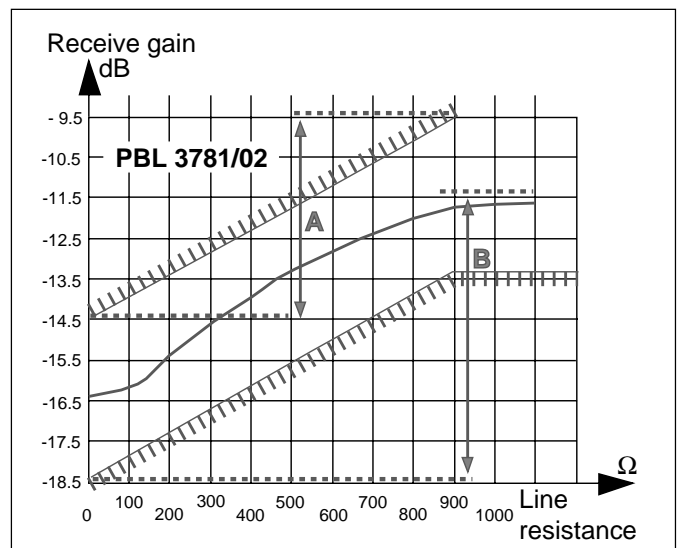

Figure 7. Receiving gain, gain versus line resistance.
**Note 2.** For a circuit with a gain of -18,5 dB at  $R_L = 0 \Omega$ , the gain will be minimum -13,5 dB as specified or maximum -11,5 at  $R_L = 900 \Omega$  since the gain regulation range must be less than 7 dB (B in fig. 7).
Correspondingly, if the gain is -14,5 dB at  $R_L = 0 \Omega$ , the gain will be maximum -9,5 dB as specified or minimum -11,5 at  $R_L = 900 \Omega$  since the gain regulation range must be more than 3 dB (A in fig. 7).